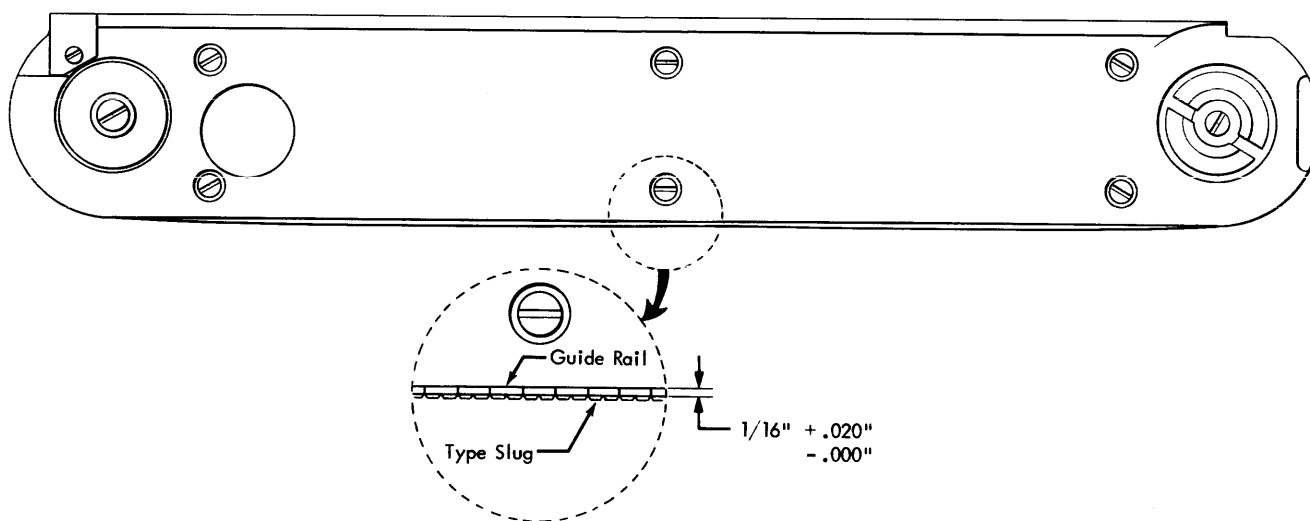

Figure 26. Correct Chain Tension
- d. The slugs in the center of the cartridge should hang out $\frac{1}{16}$ " (+ .020", - .000") to ensure correct chain tension (Figure 26).